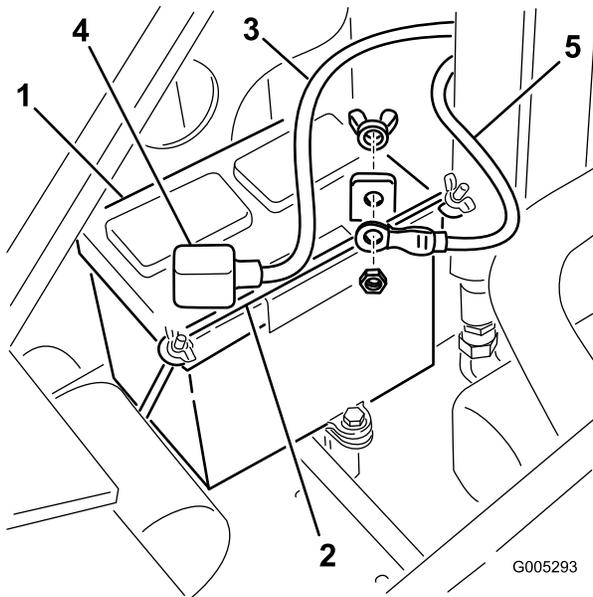

Figure 32
- Remove the wing nuts and bar securing the battery (Figure 32).
- Disconnect the negative (black) ground cable from the battery post (Figure 32). Retain the fasteners.
- Disconnect the positive (red) cable from the battery post (Figure 32). Retain the fasteners.
1. Using the fasteners previously removed, install the positive (red) battery cable to the positive (+) battery terminal (Figure 32).
3. Using the fasteners previously removed, install the negative (black) battery cable to the negative (-) battery terminal (Figure 32).
4. Secure the battery using the bar and wing nuts (Figure 32).